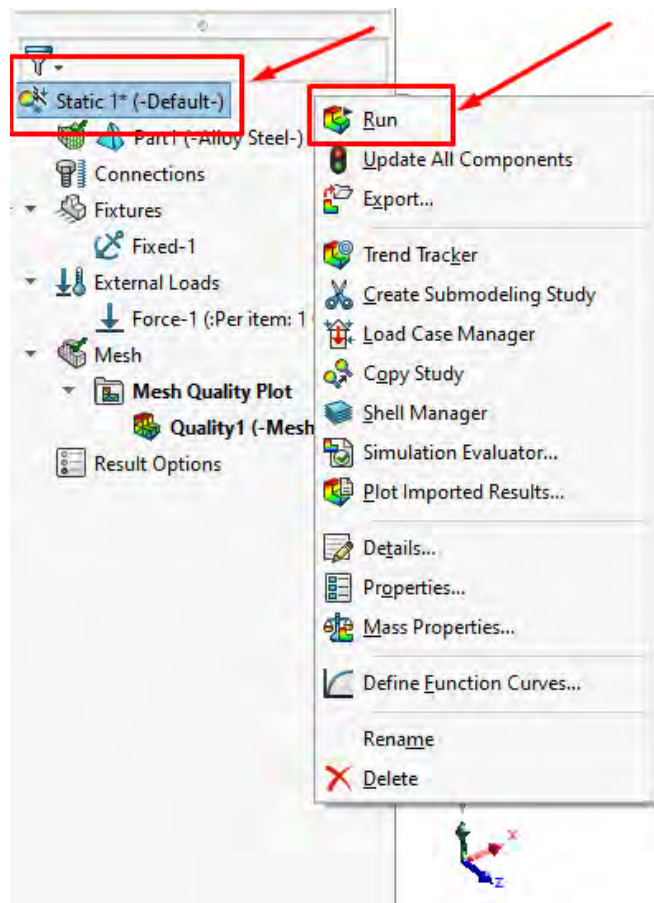

Figure 15 – Starting the calculation
1. In the Simulation study tree, right-click on the study name (for example, "Static 1") (Figure 15).
2. In the context menu, select Run (Fig. 15).